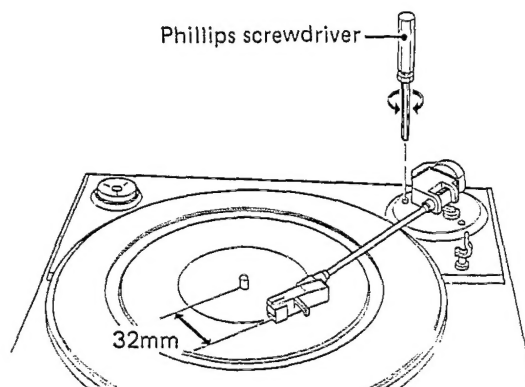

Fig. 10-3 Auto-return position adjustment
5. Stop turning the adjustment screw at the point at which there is a space of 32mm between the stylus of the cartridge and the center shaft. (Fig. 10-3)